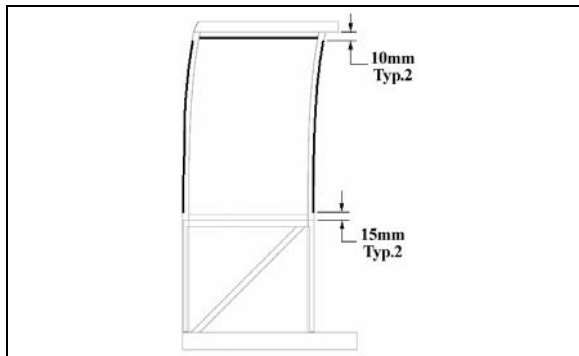

FIGURE 56 : SIDE WINDOW – ¼ X ½ DOUBLE FACE ADHESIVE TAPE INSTALLATION
3. Apply ¼" X ½" double face self adhesive tape on the slide-out structure for side fixed window (see FIGURE 56) [10mm≈3/8"] [15mm≈19/32"];